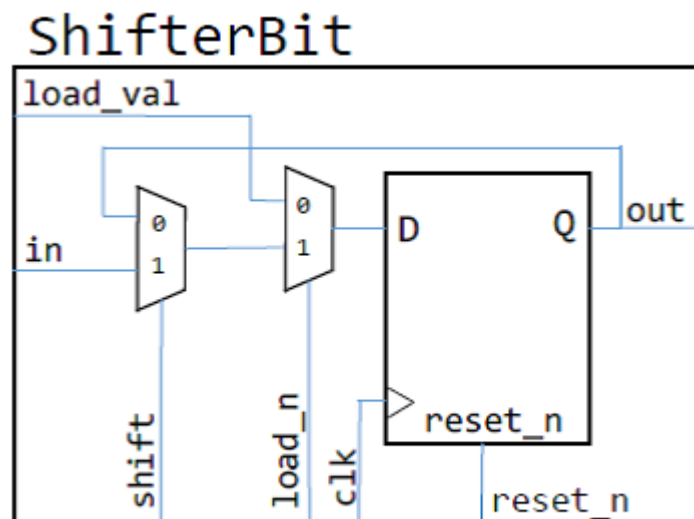
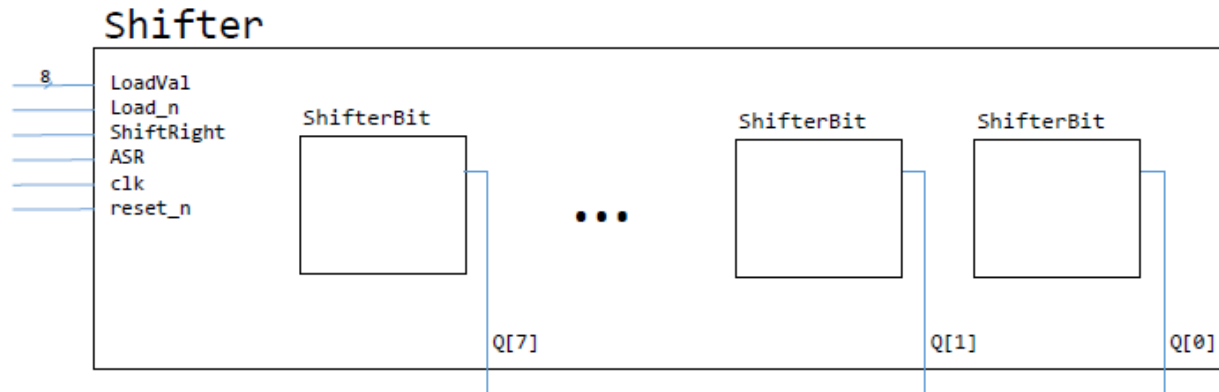

Figure 5: Single-bit shift-register
Figure 6: 8-bit shift-register of Part III. None of internal connections are shown here.
In this part of the lab, you will create an **8-bit shift-register** that has an optional arithmetic shift. A shift register is a collection of flip-flops that move values sequentially between each other on each clock edge. Figure 5 shows one bit of this shift-register. It contains **a positive edge-triggered flip-flop and two multiplexers**. To create an 8-bits shift-register, you will use eight instances of the circuit in Figure 5 to design your 8-bit shift-register with optional arithmetic shift and parallel load as shown in Figure 6.
In the Shifter module, create an **8-bit-wide register input LoadVal**, whose individual wires are connected to `load_val` input of ShifterBit instances. Likewise, create an 8-bit-wide output Q, which is the output of ShifterBit instances. The *shift* input of all eight instances of the circuit in Figure 5 should be connected to the single input *ShiftRight*. The same thing applies to *load\_n*, *clock (clk)*, and *reset\_n*.
The *in* input of seven instances should be connected to the out port of the instance to its left. For the leftmost ShifterBit, you should design a circuit that will perform sign-extension when the signal ASR is high (arithmetic right shift) or load zeros if ASR is low (logic right shift). This special circuit is not shown in Figure 6.
- What is the behaviour of the 8-bit shift register shown in Figure 6 when  $Load\_n = 1$  and  $ShiftRight = 0$ ? Briefly explain in your prelab. **(PRELAB)**
- Draw a schematic for the 8-bit shift register shown in Figure 6 including the necessary connections. Your schematic should contain eight instances of the one-bit shifter shown in Figure 5 and all the wiring required to implement the desired behaviour. Label the signals on your schematic with the same names you will use in your Verilog code. **(PRELAB)**
- Starting with the code in Figure 2 for a positive edge-triggered D flip-flop, use this D flip-flop with instances of the *mux2to1* module from Lab 2 to build the one-bit shifter shown in Figure 5. To get you started, Figure 7 is a code snippet that shows how the D flip-flop will be connected to one of the 2-to-1 multiplexers. **(PRELAB)**